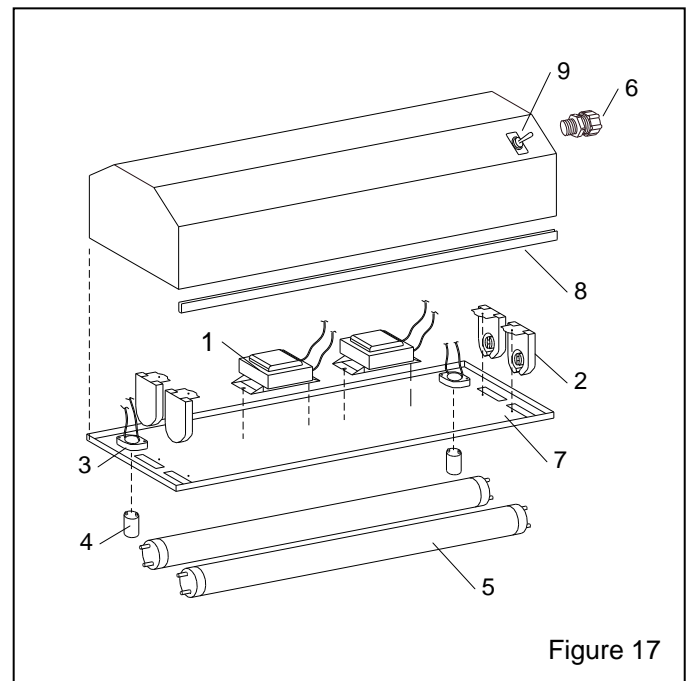

Figure 17
8.4 Light Shield Assembly, Figure 17